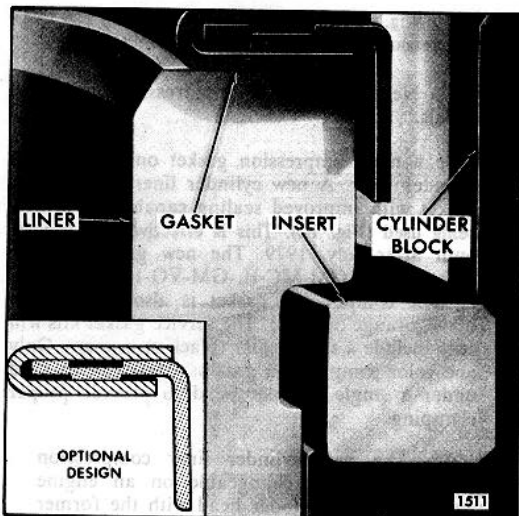

Fig. 12. Compression Gasket Mounting in Cylinder Block
- a. Place a new compression gasket on top of each cylinder liner. A new cylinder liner compression gasket with improved sealing capabilities is now being used (Fig. 12). This is effective with engines built after July, 1979. The new gasket can be identified by GM-MC-H, GM-VG-H or GM-FPH. The compression gasket is also color coded black, orange or white. The service gasket kits will only include a single color (black or orange). Only one color compression gaskets (seal) can be used under a single cylinder head to provide proper clamping.